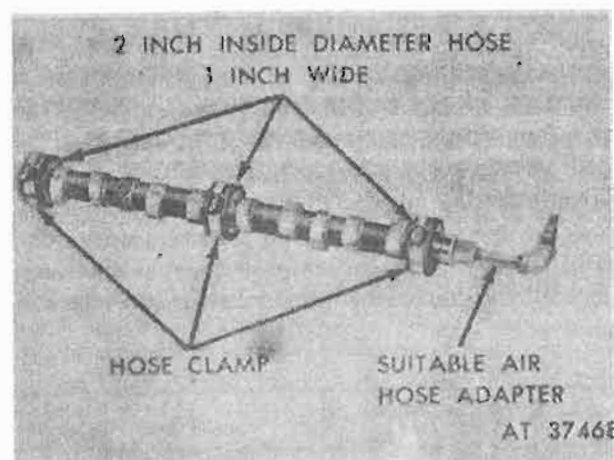

Figure 4-173. Camshaft pressure check.
c. *Pressure Check of Main Oil Gallery in Camshaft* (fig. 4-173). Cut three 1-inch wide sections from a 2-inch inside diameter rubber hose and install one on each camshaft journal. Secure firmly in place with hose clamps. Immerse rear end of camshaft in water or equivalent and apply air pressure to front end of shaft and check for leakage of oil plug. Assembly must withstand 60 psi air pressure without leaking. When camshaft successfully passes pressure check, remove hose clamps and rubber hose from journals and blow out all oil passages with compressed air. Apply engine oil (OE-10) to inner and outer surfaces of camshaft to prevent rust.